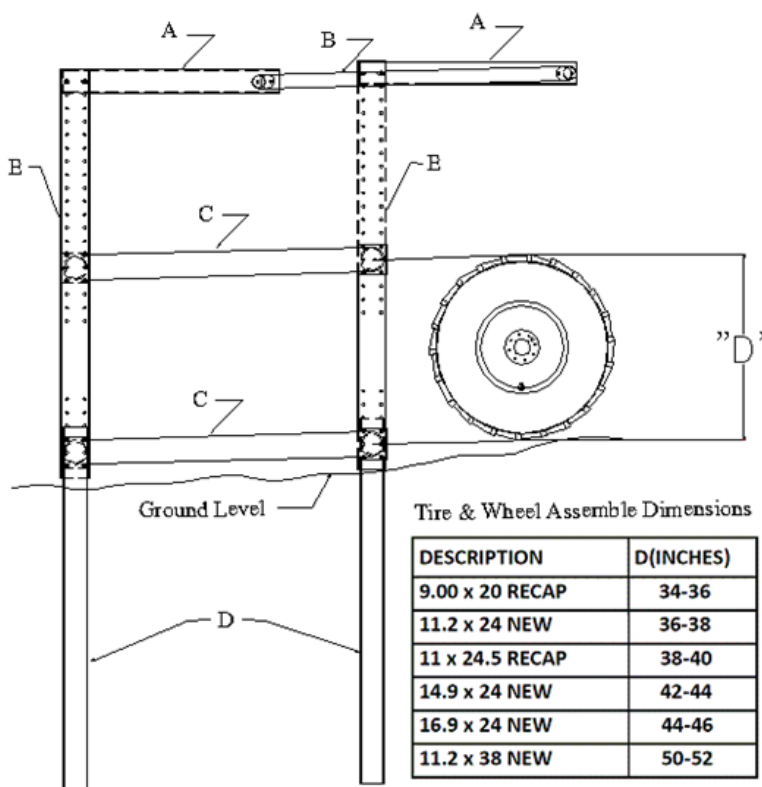

Fig. 4
1. Place the two crossbars assemblies (C) parallel to each other. Use the guide "Tire and Wheel Assemble Dimensions" to determine the distance between them. (Fig.4)
2. Place the legs (E) perpendicular, to the crossbars assemblies, with the channel side facing out. To orientate the legs, the top, of the leg has 36 "Hole" grouping and the bottom of the leg has a 12 "Hole" grouping. (Fig.4)
3. Slide the leg extensions (D) into the bottom of each leg (E) insuring the 3 sets of holes of the leg extension align (D) with the bottom 3 sets of holes, of the leg (E). (Fig.4)
5. Position the 2nd crossbar assemble (C) at the required distance from the 1st crossbar assemble, using the chart in Fig. 4.